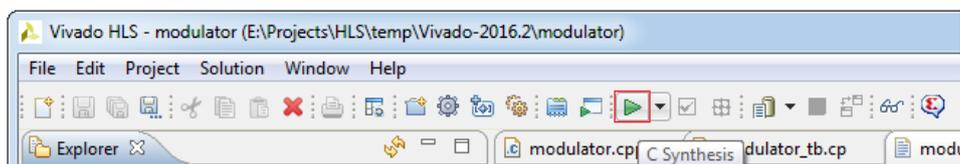

Figure 2.20: Run C Synthesis button
Step 1. Click the **Run C Synthesis** toolbar button (Figure 2.20) or use the **Solution -> Run C Synthesis -> Active Solution** option from the main Vivado HLS menu to synthesize the design to an RTL implementation.